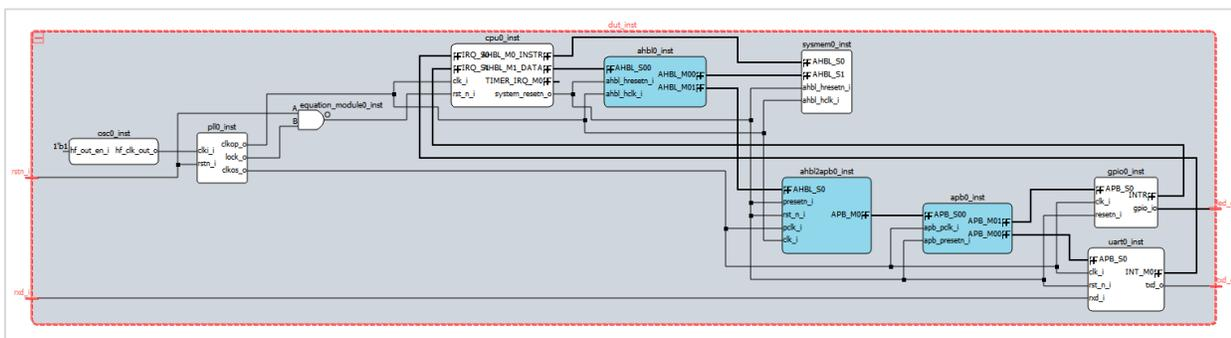

Figure 2.116. Whole SoC Design
- Click the plus sign  of this `dut_inst` DUT block. You can see the whole SoC Design (Figure 2.116). Click the negative sign  to close the expanded bus.